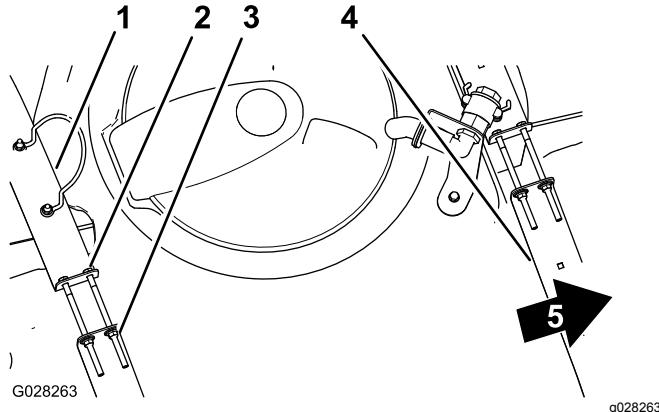

Figure 28
2. Check to see if there is any movement between the tank straps and the tank (Figure 28).
3. If the tank straps fit loose to the tank, tighten the flanged locknuts and bolts at the top of straps until the straps are flush with the surface of the tank (Figure 28).